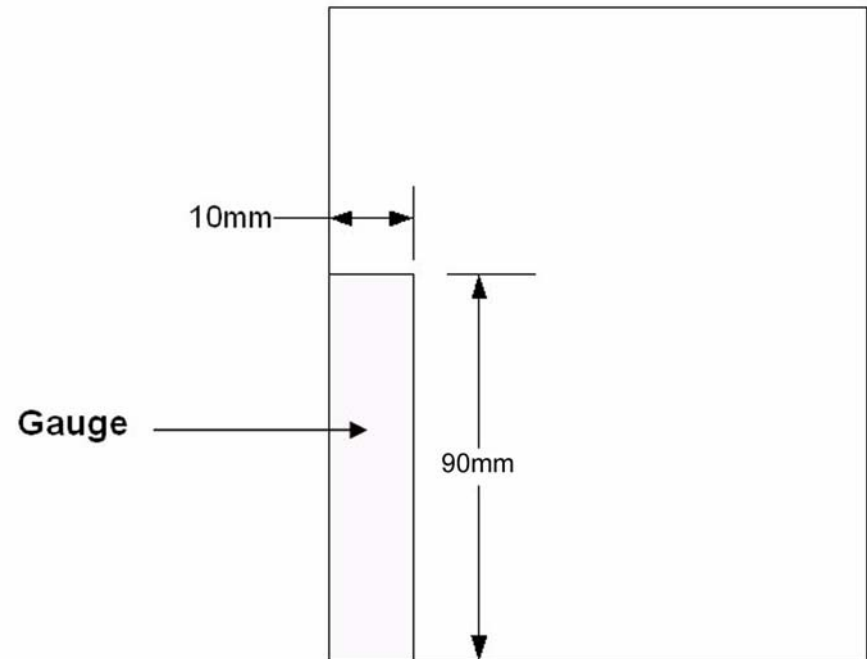

Figure 1 Fabricate a gauge to measure the Nip Spring length
2. While the Fuser cools, make a measuring gauge by cutting a strip of paper that is 90mm long by approximately 10mm (3/8 inch) wide (Figure 1). Use cover/card stock (or equivalent) if available or fold a lighter weight paper to give it rigidity.